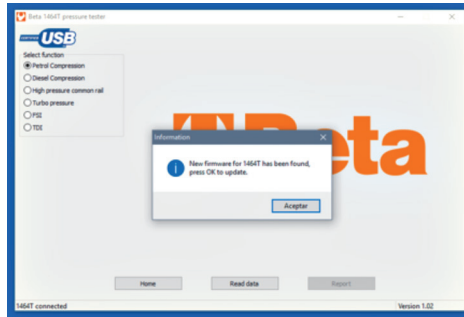

Fig.4
- When the tester is detected, the PC checks if there is a new firmware in Beta server and notifies the user. See fig.4